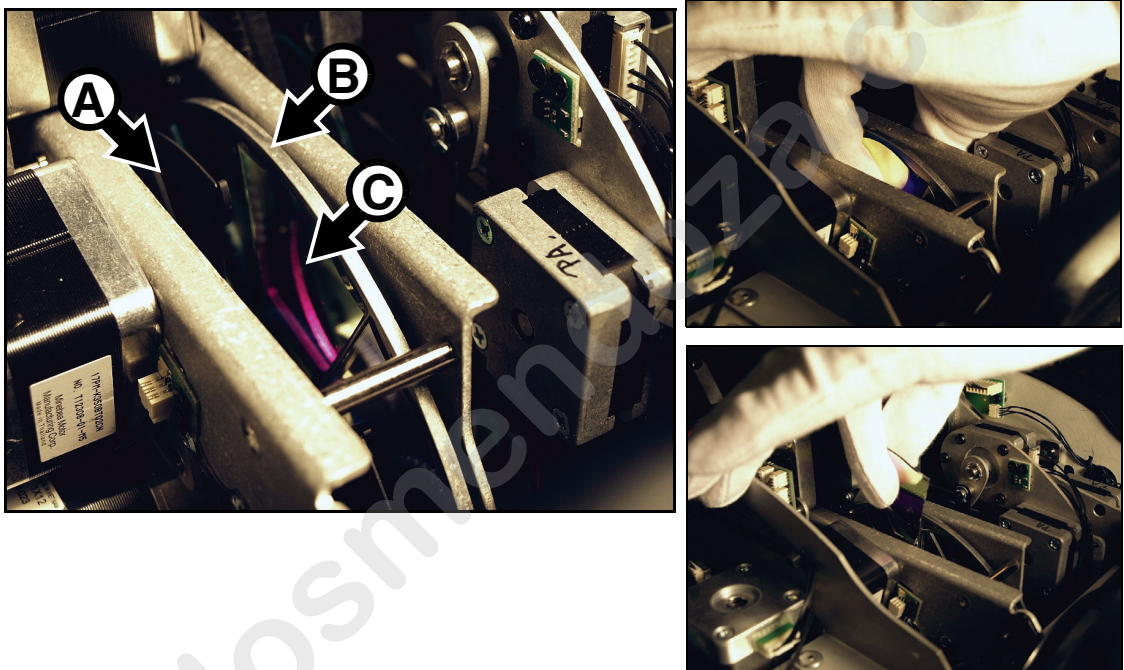

Figure 22: Color filter removal
3. See Figure 22. Remove one of the gobos from the left-hand gobo wheel **A** as described in “Replacing rotating gobos” on page 22 (making sure that you line up the magnet with a reference point), so that you have access to both sides of the color wheel **B**.